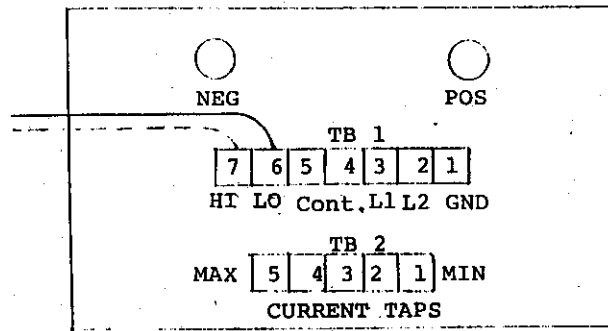

Figure 3-3
The power supply can be connected to either a 208VAC or 230VAC primary voltage source. Compensation is made by setting the high/low coarse current adjust tap to the appropriate terminal of TB-1 as shown in Figure 3-3. Fine current adjustment is made by setting the fine current adjust tap from TB2-1 (minimum) to TB2-5 (maximum) (see tap adjustment procedure, Section 4.4).
- c. The high/low current adjust tap should be attached to TB1-6 for low current operation or TB1-7 for higher current operation (see Figure 3-3).
- d. The minimum current setting on the fine adjust current taps is obtained by fastening the associated tap wire to TB2 terminal 1 (see Figure 3-3).